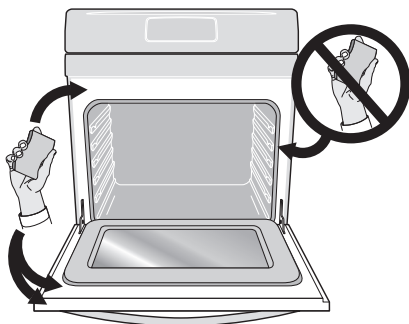

Figure 39: Oven door area to clean and not clean (gasket).
- Clean any soil from the oven frame, the door liner outside the oven door gasket and the small area at the front center of the oven bottom (Figure 39). These areas heat sufficiently to burn soil on. Clean using soap and water prior to starting Self Clean.
- Do not clean the oven door gasket (Figure 39). The woven material of the oven door gasket is essential for a good seal. Care should be taken not to rub, damage or remove the gasket. Do not use any cleaning materials on the oven door gasket. Doing so could cause damage to the door gasket.